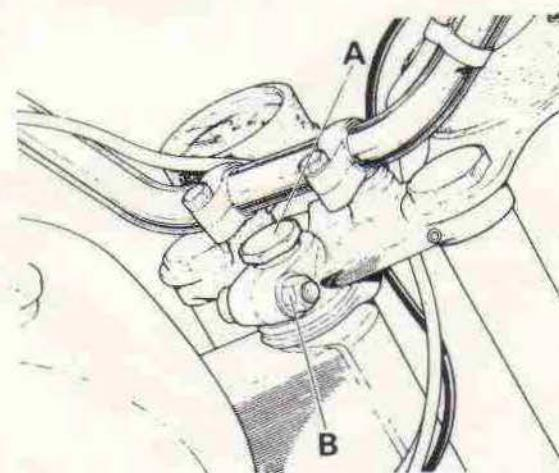

Fig. G1. Steering head adjustment
To adjust the steering head assembly, slacken the clamp nut B, Fig. G1 and the top yoke adjuster nut A then tighten down the adjuster nut until adjustment is correct. There should be no play evident
Slacken the top lug pinch bolt (A) fig. G1 and remove adjuster and middle nut (B). Loosen both the top lug stanchion pinch bolts with an allen key. Slide fork leg and stanchion from the lugs.
The steering head outer races have a very long serviceable life and should not need replacement for a very considerable mileage. If however their replacement is deemed necessary the races can be removed using a suitable drift from inside the head lug. Replacement of the new race is effected by using service tool 61-6121. Do not forget to refit the bearing abutment rings behind the outer races. Reassembly is the reverse of the above procedure. Grease the bearings prior to replacement, see Section A1 for correct grade. Note that head of both the top lug and stanchion must be flush leaving the head of the inner retaining plug standing proud. Care must be taken to ensure that the headlamp shrouds are located correctly in the prospective recesses in the top plug. Note that when refitting the plastic dust cover ensure that it sits square to allow the adjuster nut, fig. G1 (A) to locate on the bearing. Readjust the steering head bearing as in Section G1. Reassemble the hydraulic system as described in Section F6.